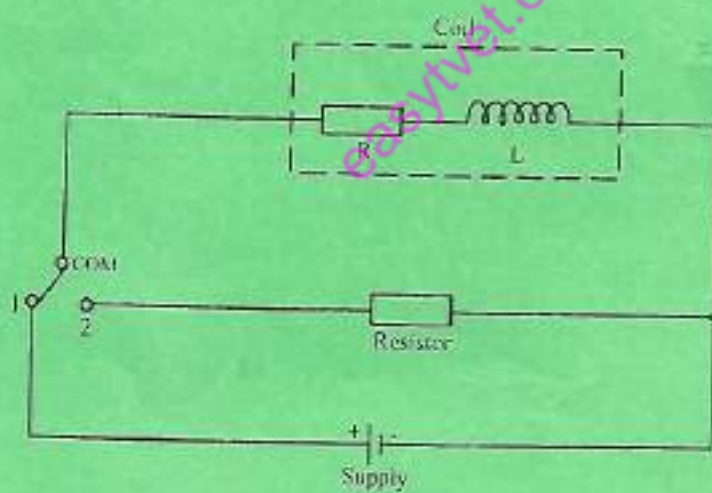

Fig. 3
- (b) Figure 3 shows a d.c inductive circuit.